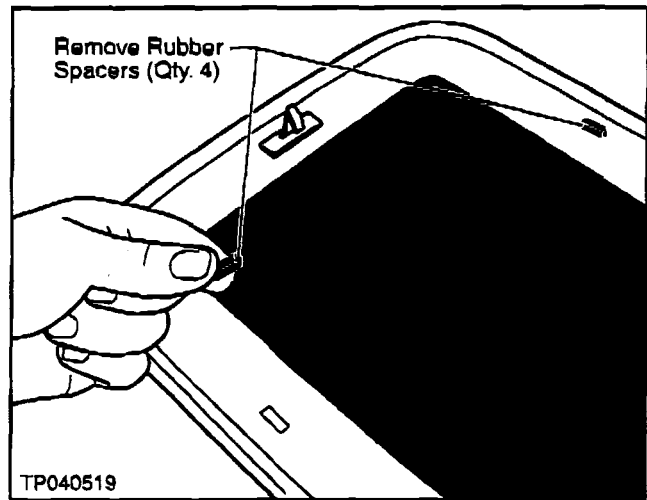

Figure 7
10. Remove the four Rubber Spacers from the new Skyview Roof Glass (see Figure 7).